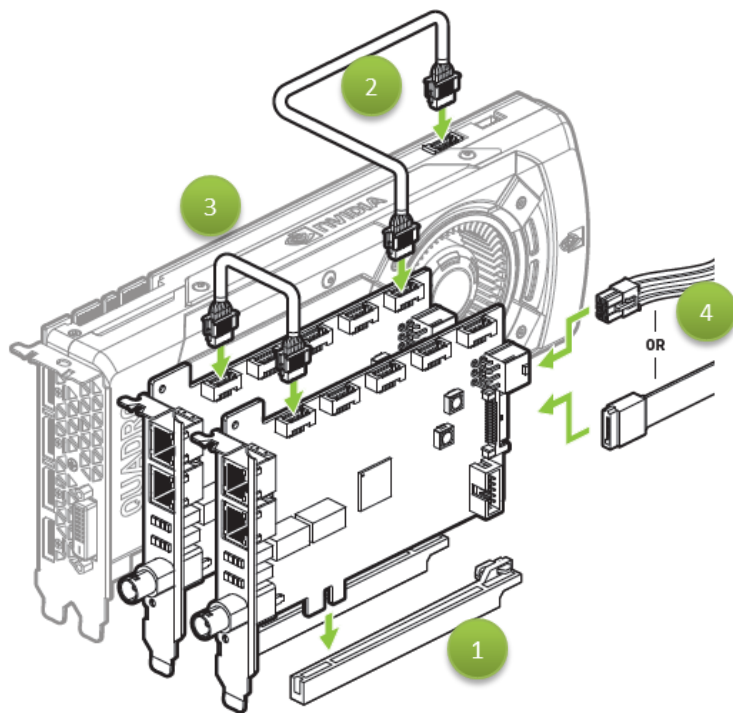

Figure 2. Installing and Connecting the Quadro Sync II Card
Use the following steps and Figure 2 to install the Quadro Sync II Card
2. Connect up-to four Quadro cards to the Quadro Sync II card GPU connectors (2 in Figure 2) using the included cables.
3. Connect power to the Quadro Sync II card using either a 6-pin PCIe or SATA power cable (4 in Figure 2).
5. Connect up-to four Quadro cards to the Quadro Sync II card GPU connectors (2 in Figure 2) using the included cables.
6. Connect power to the second Quadro Sync II card using either a 6-pin PCIe or SATA power cable (4 in Figure 2).
7. Connect one Quadro Sync II card to the other Quadro Sync II card (3 in Figure 2) using the included cables between the Sync II connectors.